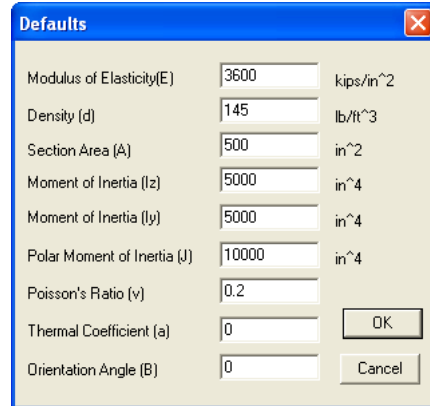

Figure 3-12 Defaults dialog box
- From the **Define** menu, select **Defaults**. The dialog box of Figure 3-12 appears. Some text boxes may not be available, depending on the structure type selected. In the corresponding text boxes, enter the values of modulus of elasticity (E), material density (d), member cross-section area (A), section moment of inertia about the local z -axis (I_z), section moment of inertia about the local y -axis (I_y), section polar moment of inertia (J), material Poisson's ratio (ν), material thermal coefficient (α), and member orientation angle (θ).